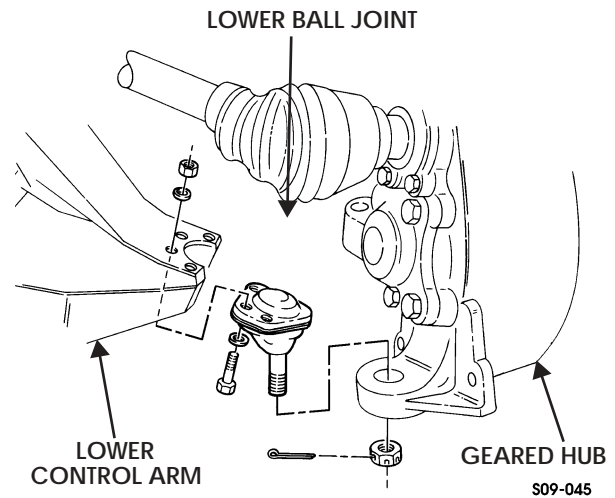

Figure 9-6: Lower Ball Joint
1. Position upper ball joint on upper control arm, ensuring upper ball joint is placed above upper control arm (Figure 9-6).
2. Raise and support lower control arm (Figure 9-6).
1. Install lower ball joint on lower control arm, ensuring lower ball joint is placed below lower control arm and secure with four washers, capscrews, washers, and locknuts. Tighten front locknuts to 37 lb-ft (50 N•m) and rear locknuts to 70 lb-ft (95 N•m) (Figure 9-6).